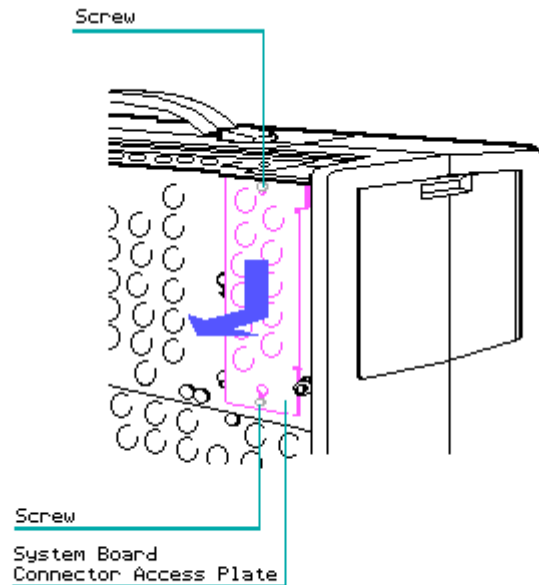

Figure 7.7-1. Removing the System Board Connector Access Plate
4. Remove the access plate by sliding it slightly down and away from the chassis (Figure 7.7-1).